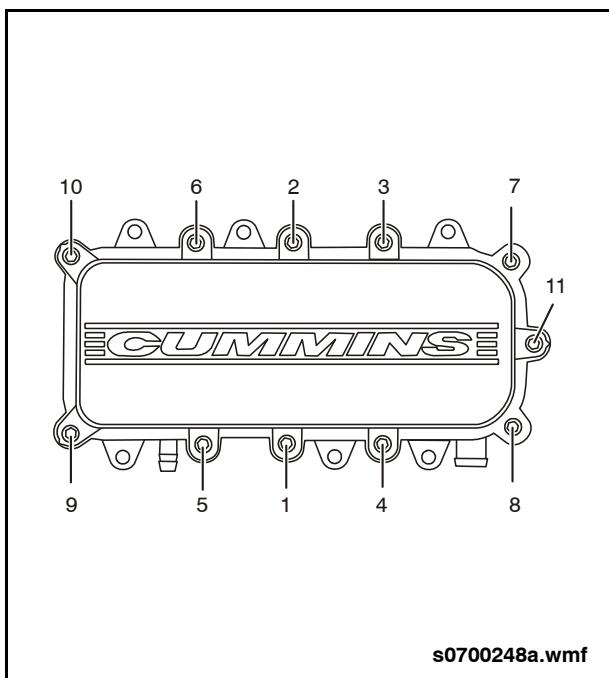

Fig. PM-42: Breather Cover Torque Sequence
3. Install the breather cover using eleven bolts. Torque bolts to 44 in-lb. (5 Nm) in the sequence shown. See "Fig. PM-42: Breather Cover Torque Sequence" on page 85.